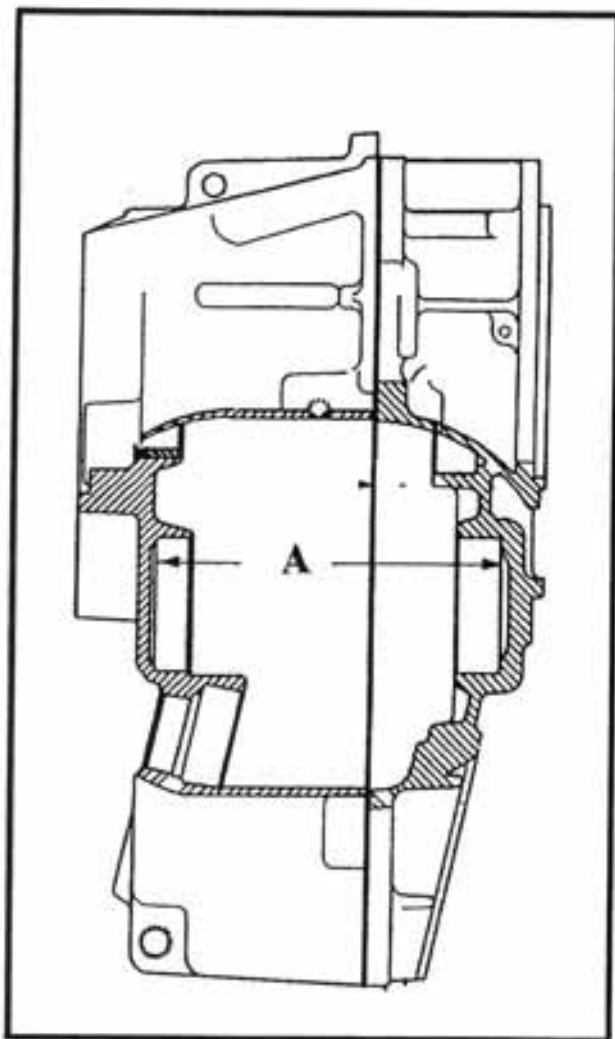

Figure 1-5. Assembled case and cover cutaway.
4. Add measurements A1 and A2 determined in 2d and 3g above. This will be the total distance between the intermediate shaft bearing seats in an assembled case and cover (figure 1-5) This is measurement "A".
5. Press the two bearing cones (139 & 141) on the intermediate shaft (140), place cups